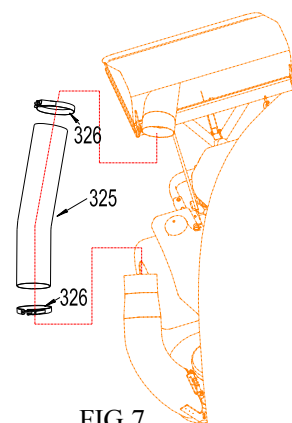

FIG 7
Slide hose clamp (326) onto grass tube (325) and attach to deck discharge tube. Slide clamp onto other end of grass tube and attach this end of grass tube to catcher hood. Tighten hose clamps. (FIG 7)